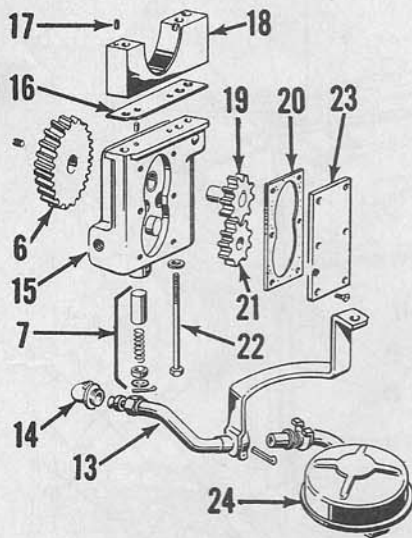

Fig. F16—Model TO30 engine oil pump which is bolted to the lower side of the No. 1 main bearing cap. TE20, and TO20 oil pumps are similar in construction.
29. Gear type pump, shown in Fig. F16, is bolted to bottom of number one main bearing cap and is gear driven from crankshaft pinion. Pump is accessible after oil pan is removed.
30. Plunger type relief valve (7—Fig. F16) is located in oil pump body and can be adjusted with spacers inserted under the spring so as to maintain a pressure of 20 - 30 psi at 2200 engine rpm. At idle speed, pressure should not be lower than 15 psi. The plunger type valve should fit in its bore with a 0.003 - 0.005 clearance. The relief valve spring should have a free length of 2 inches and should check 8±¼ pounds at a working length of 1 3/8 inches.